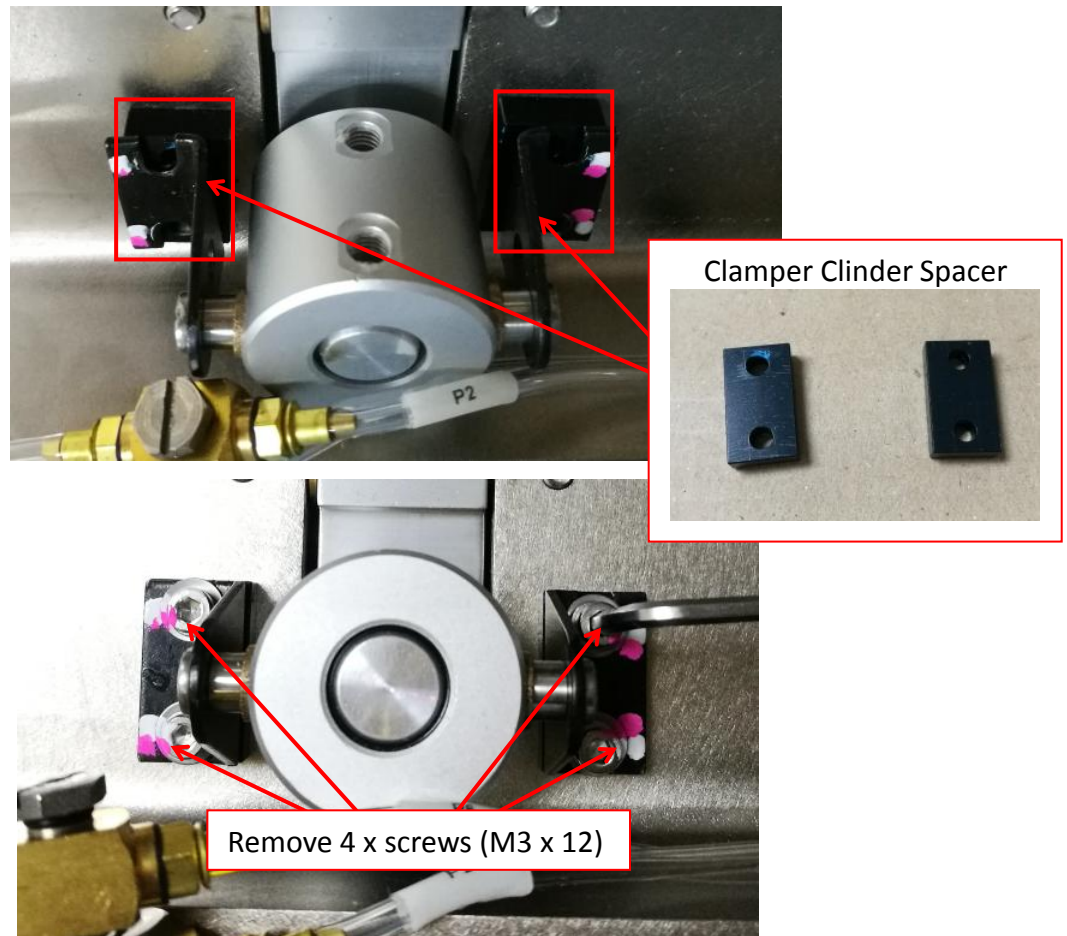

Figure 17 Clamper Cylinder Assembly
6. Gently slot 2 x spacers. Tighten 4 x screws (M3 x 12) as shown in Figure 17